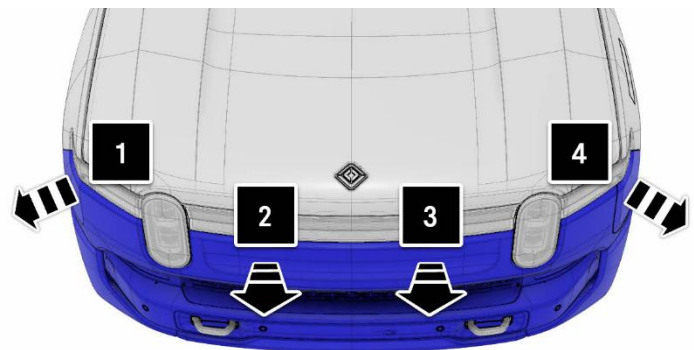

**Figure 21**
1. On the passenger side gently pry near the 3 highlighted clips to release the fascia from the fender. (Figure 21)